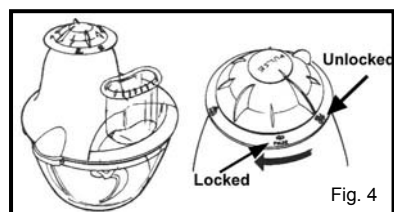

Fig. 4
6. Place the power unit onto the bowl. Turn the locking/unlocking button to the left to lock the power unit in place on the bowl. (Fig. 4)